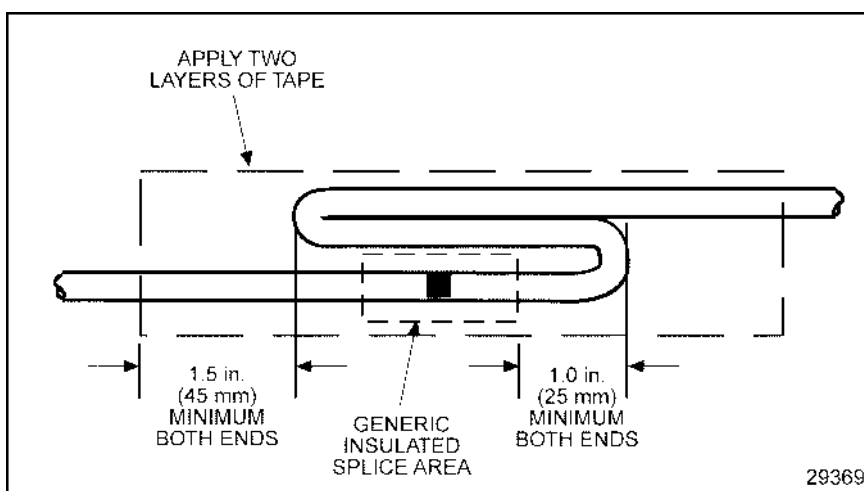

Figure 3-53 Recommended Strain Relief of Spliced Joint
5. Loop the lead back over the spliced joint and tape. See Figure 3-53.
8. Loop the lead back over the spliced joint and tape. See Figure 3-53.
9. Loop the lead back over the spliced joint and tape. See Figure 3-53.